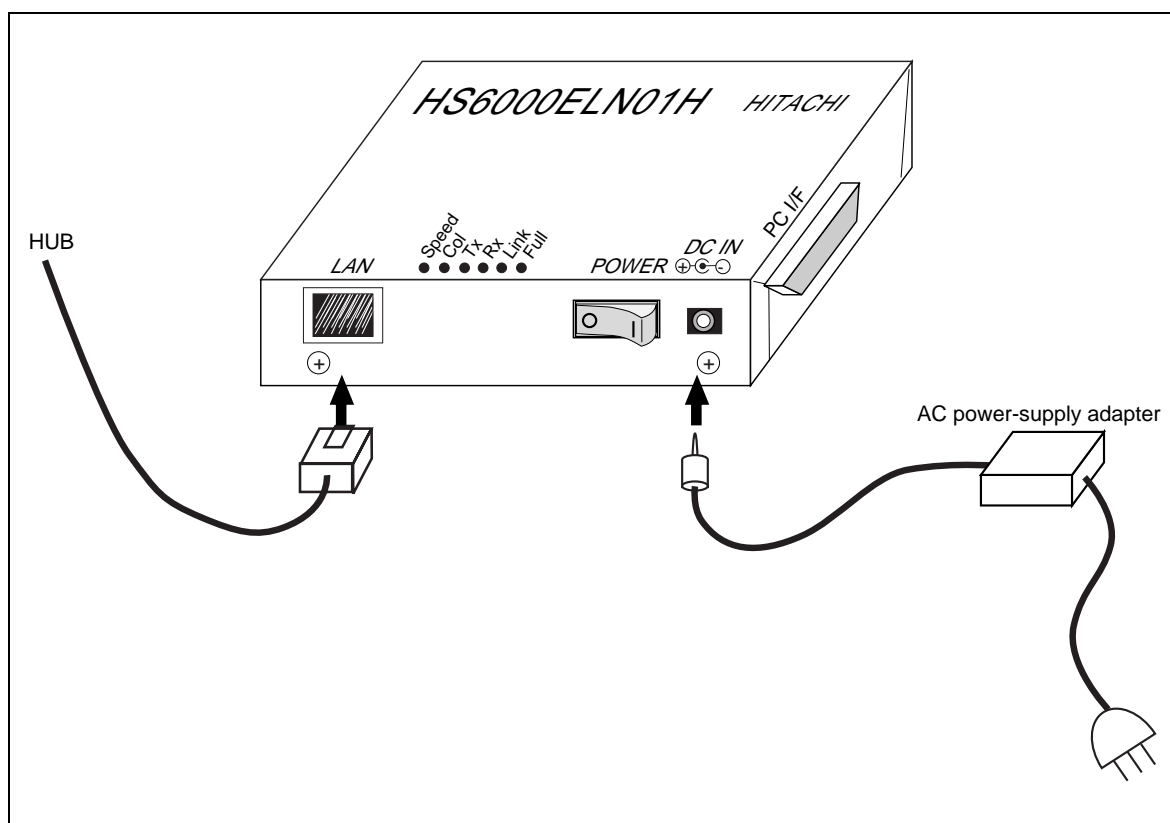

Figure 5 Connecting LAN Cable to LAN Adapter
- (1) Connect the LAN cable to the LAN socket as shown in figure 5.
- (2) Connect the AC power-supply adapter to the DCIN socket.